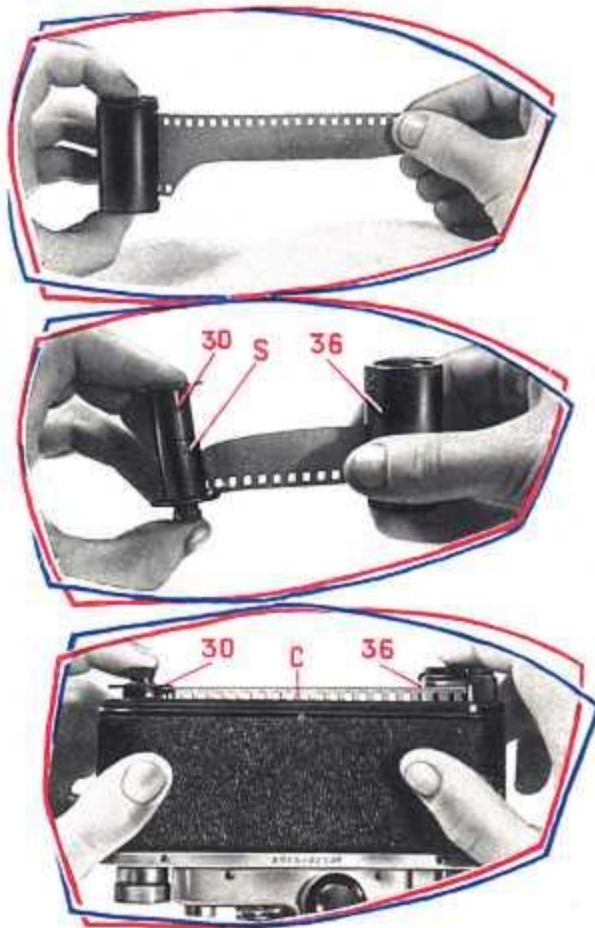

Fig. 7.
4. Draw the film end out of the magazine to a length of 9 or 10 cm and out it carefully to a shape as shown in Fig. 7.
5. Holding the take-up spool 30 in your left hand and loaded magazine in your right hand (see Fig. 7) fix the end of the film under spool spring “S” (originally: “П” – Cyrillic “P”, from ‘пружина’, ‘proodzina’ – spring). Take care that the uncut side of the film lies closely against the spool flange.
6. Holding the open camera with its lens outwards, as is shown in Fig. 7, insert the film into the film track “C” (originally: “C” too, in Latin, from ‘channel’) by lowering the spool and the magazine evenly into place. If the